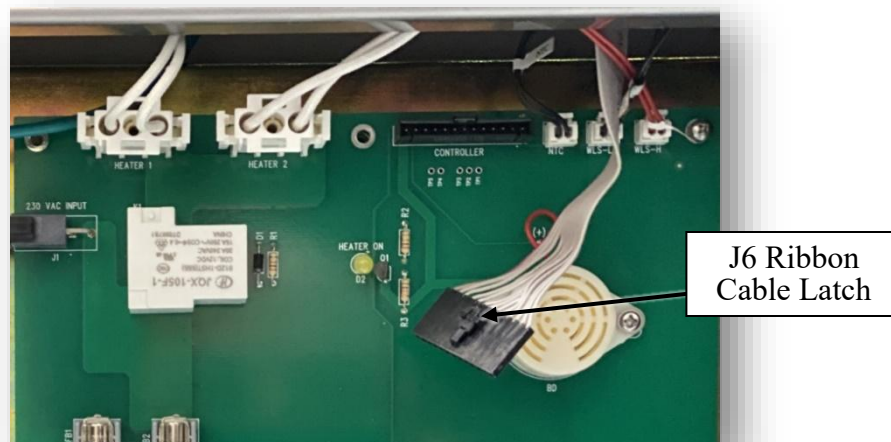

Figure 35 – Reseat the J6 Connector
- Reseat the J6 Control Panel ribbon cable. Press the latch with a thumbnail (See Figure 35) and wiggle the connector out of the slot. Press the connector back into the slot and ensure it snaps in securely. Power on the SCA and see if the issue is resolved.